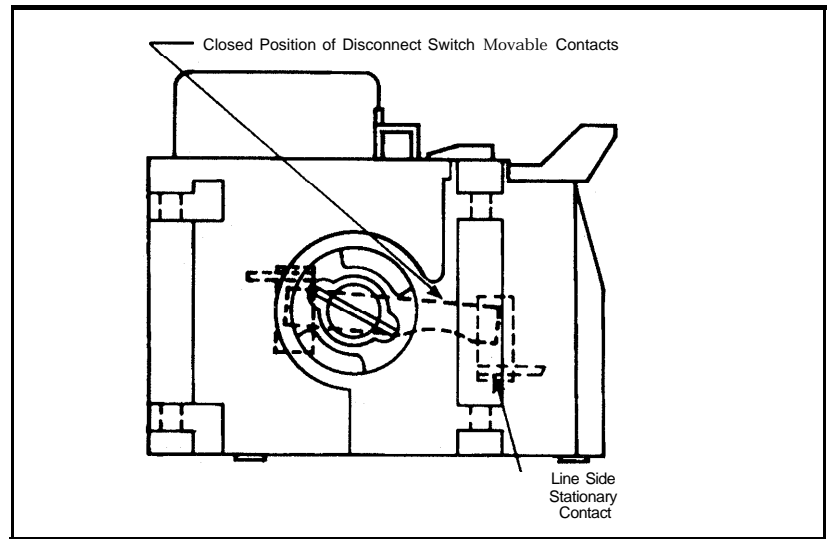

Figure 10
3. Rotate the crossbar assembly in a clockwise direction to the "CLOSED" position. (i.e. full engagement of the movable contacts into the line side stationary contacts as shown in Figure 10.) Use any convenient adjustable wrench or pliers to aid in turning.